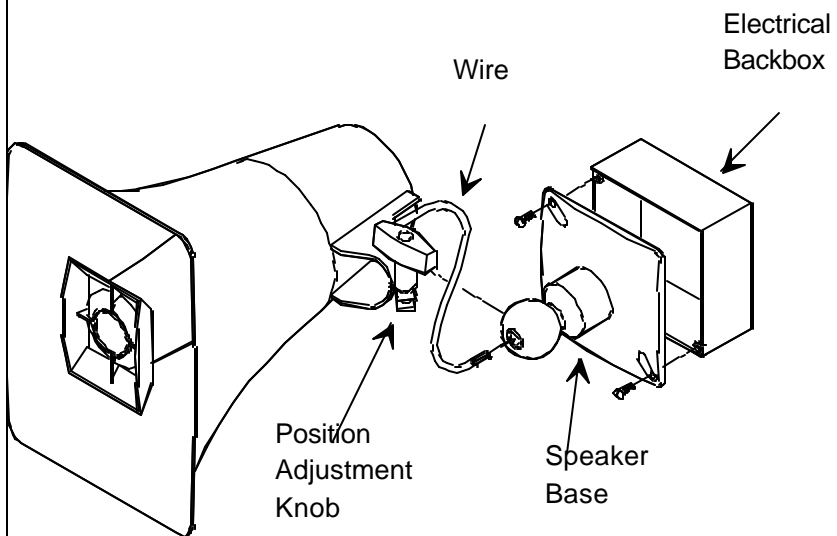

Figure 4 - Mounting to an Electrical Backbox
- Connection to an electrical backbox is accomplished by channeling wire through the ball of the base (See Figure 4) and making appropriate connections. The base has holes punched for a double-gang square box, but by punching out additional knockout holes, the base can be mounted to a single-gang or octagon box.